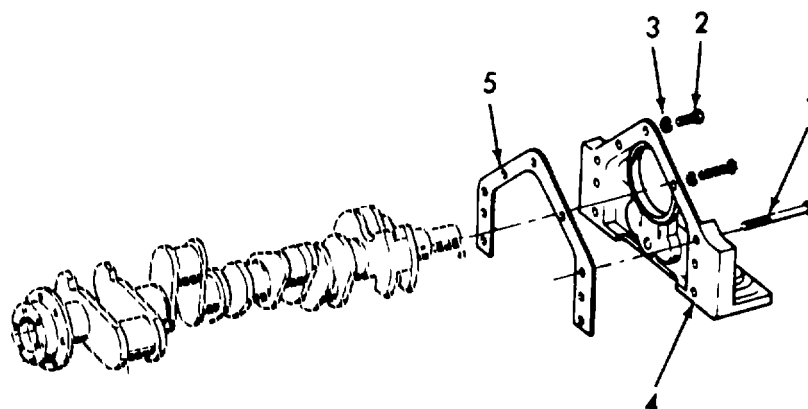

Figure 4-46. Crankshaft Front Cover, Removal/Installation.
**a. Removal.** (Refer to figure 4-46).
(1) Remove four screws (1), three screws (2), and three lockwashers (3).
(2) Remove front cover (4) and gasket (5). Discard gasket (5).
(1) Refer to figure 4-46 and install a new gasket (5) and cover (4).
(2) Secure cover (4) with three lockwashers (3), three screws (2), and four screws (1).
(3) Install crankshaft pulley per paragraph 3-30.